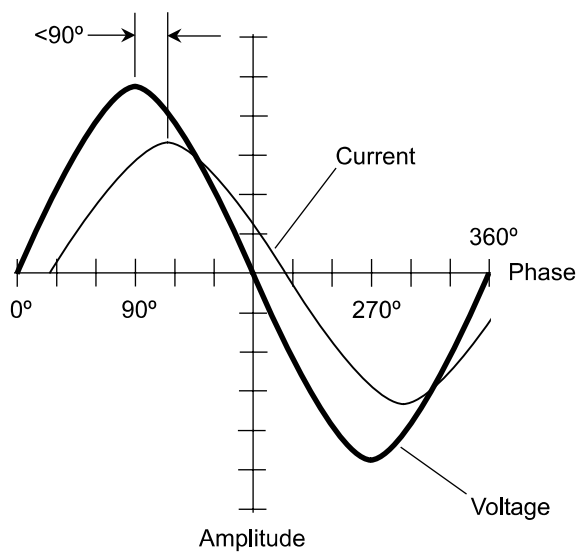

Fig. 3-7. In an RL circuit, the current lags the voltage by some phase angle greater than 0° but less than 90° .
When the resistance in a *resistance-inductance (RL) circuit* is significant compared with the reactance, the current lags the voltage by less than 90° (Fig. 3-7). If R is small compared with X_L , the current lag is nearly 90° ; as R gets relatively larger, the lag decreases. When R is many times greater than X_L , the vector lies almost on the R axis, and the *RL phase angle* is only a little more than 0° . When the complex impedance becomes a pure resistance, the current comes into phase with the voltage, and the vector lies exactly along the R axis. (Then we no longer have an *RL* circuit, but simply an *R* circuit!)